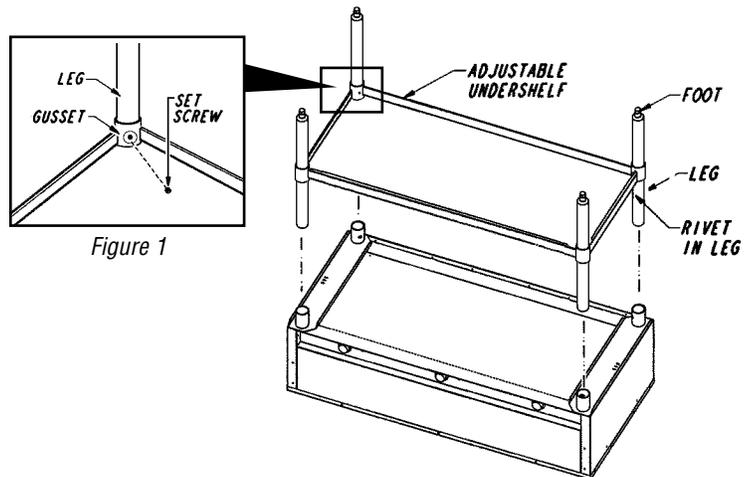

Figure 1
4. Tighten set screws in undershef gussets to secure undershef (see *Figure 1*) and install feet into legs, using a rubber mallet.